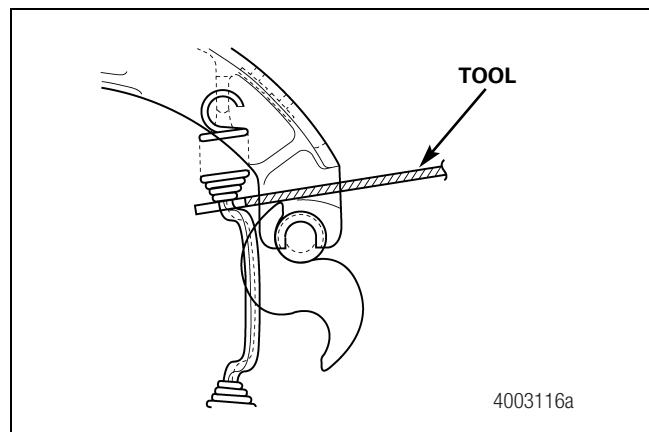

Figure 5.1
1. Remove the brake shoe return spring. Insert a return spring remover and assembler slotted plate, tool drawing number TC-78220, through the opening in the shoe. Figure 5.1. Refer to Section 8, Figure 8.11, for instructions to build the tool. You can also use a thin plate with a 1/4-inch (6.35 mm) slot.